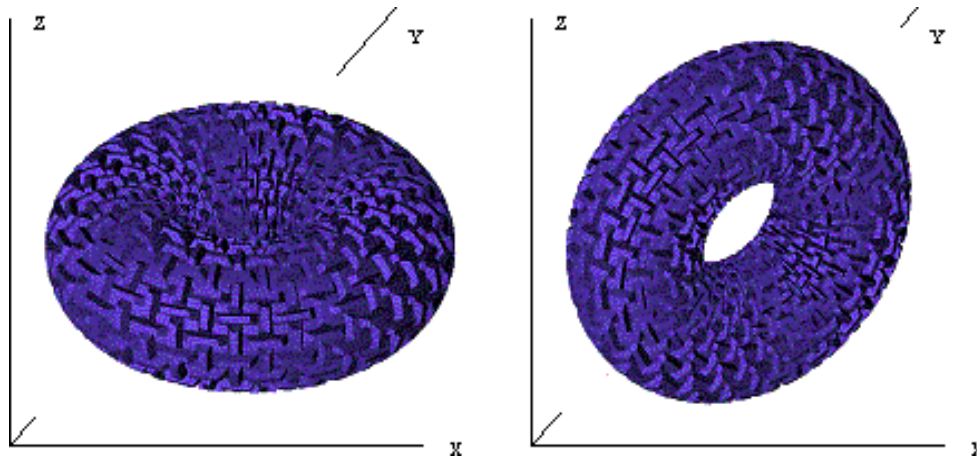

Figure 4. Orientation selection of the model
1. Reduce the deformation of the part during fabrication; QuickSlice will cut the STL file model into horizontal slices. Each slice is extruded as a single layer of material by the FDM hardware to create a physical model. So the part is built layer by layer in Z direction on a horizon base. Every layer will be dropped and bond on each other from a low "Z-level" to a high "Z-level". As shown Figure 4, if the part is oriented in such a direction that is "narrow" on horizontal direction and large in Z direction, the part will have a salient deformation when the upper level is dropping and presses the lower level. For this consideration, we should orient the model so that the biggest dimension is in horizontal direction.